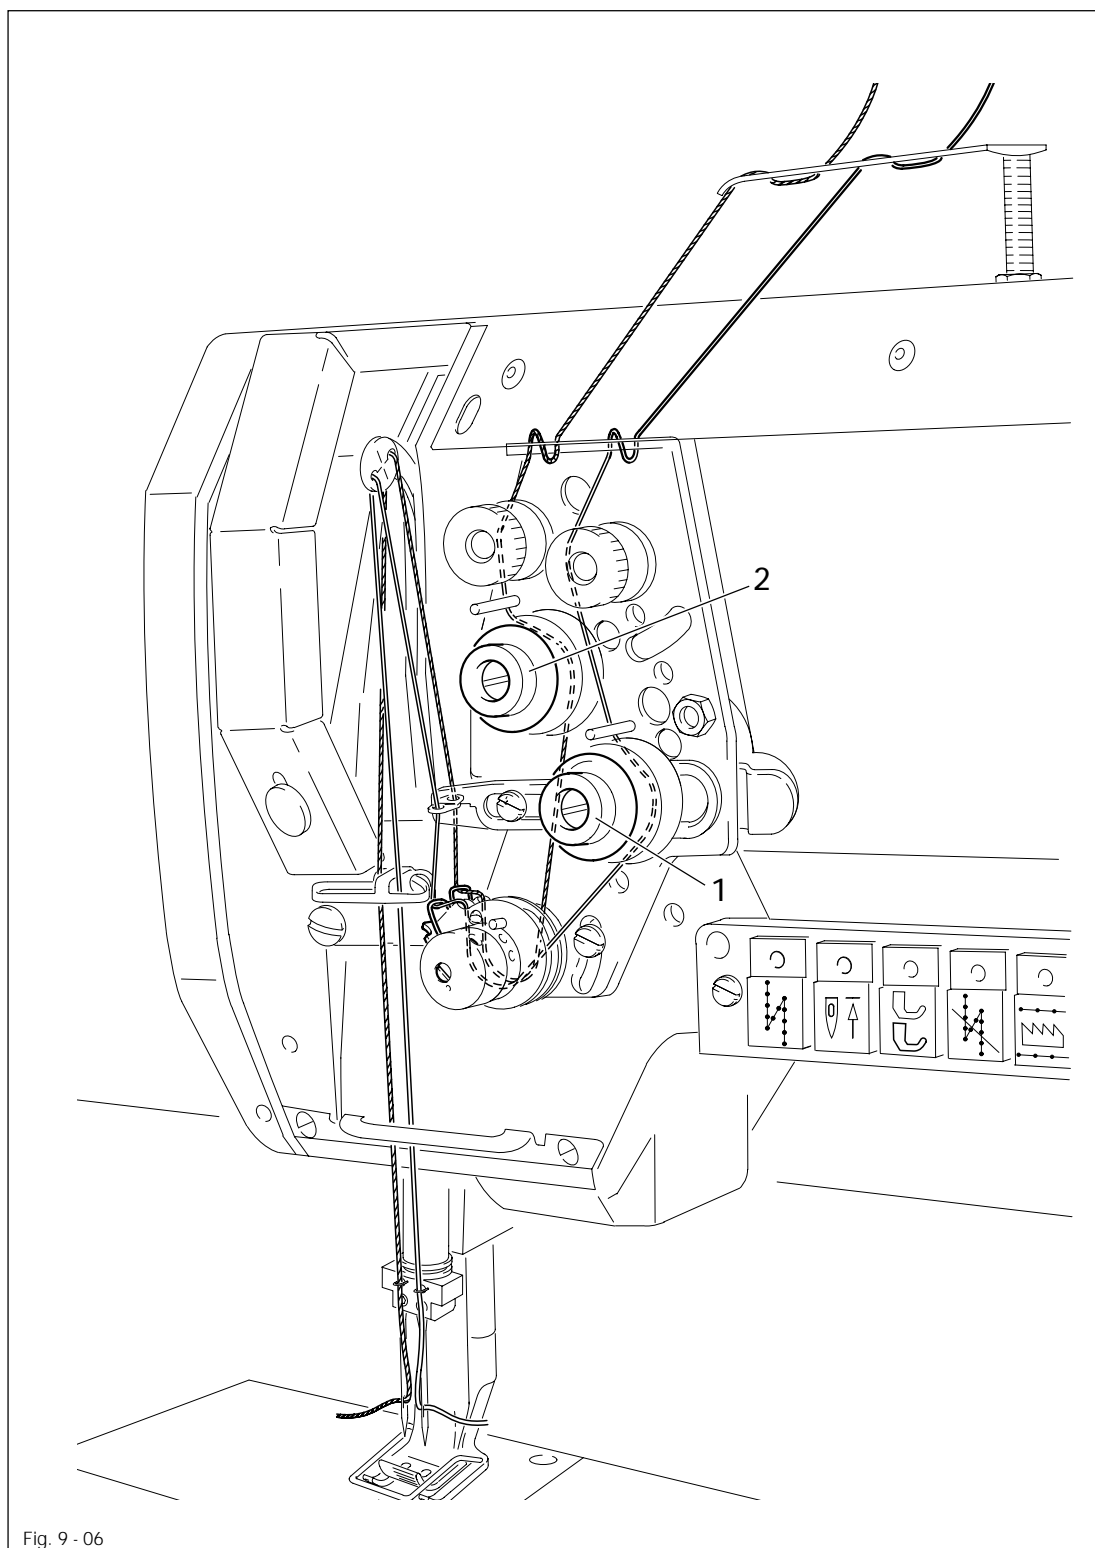

Fig. 9 - 06
- Thread the needle thread as shown in Fig. 9 - 06.